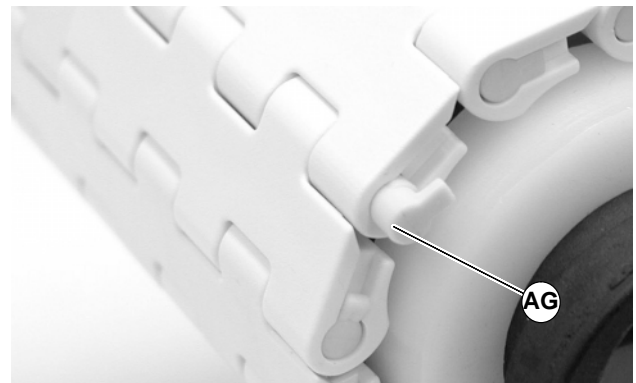

Figure 15
7. Insert rod retaining end caps (AG of figure 15) on both sides of belt.